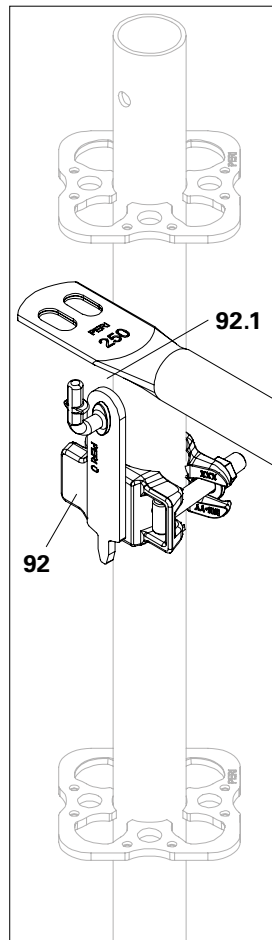

Fig. A11.04a
1. Screw the guardrail coupler with guardrail hook (**92.1**) to the top of the standard. Tighten the coupling with 50 Nm. (Fig. A11.04a)